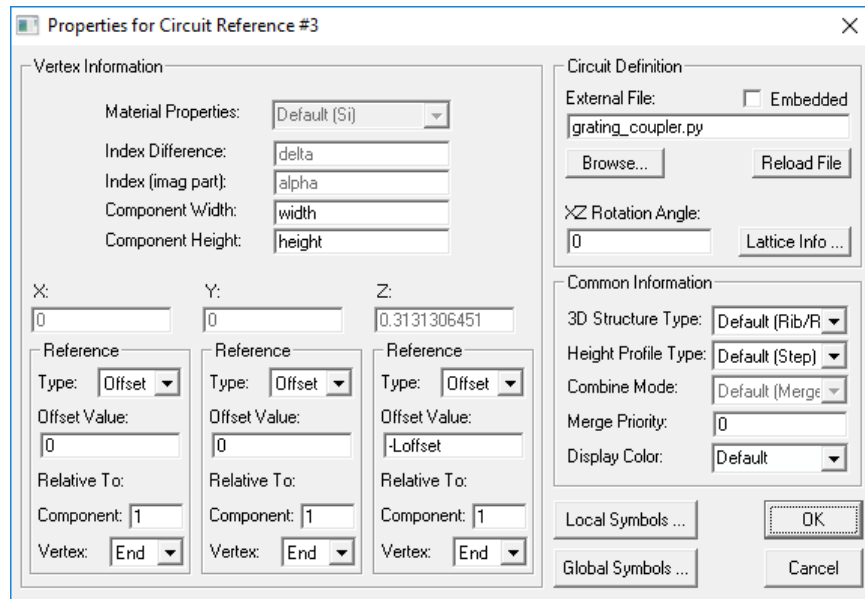

Figure 10-2: The Circuit Reference dialog used to call the Python script.
- *Circuit Reference Component Settings:* Many settings can be simply set in the properties dialog for the Circuit Reference. As shown in Fig. 10-2, we have set the **Material Properties** of the rings to **SiO2** which matches the upper cladding, we have set the **Component Width** to **Period*Duty**, and **Component Height** to **Depth**. These symbols are evaluated in the parent file and will be automatically passed to the `.ind` file created by the Python script. Also set here is the **Merge Priority** and **Display Color**.